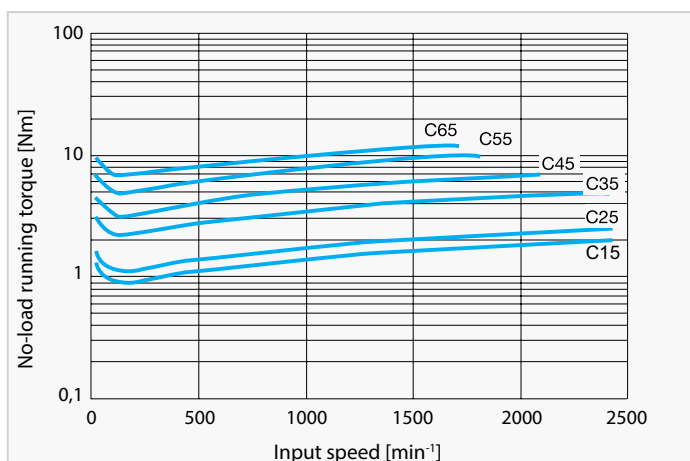

Fig. C1 Input side no-load running torque
**Note** 1. Fig. C1 shows the average no-load running torque after gearbox is run in (not factory-new condition).